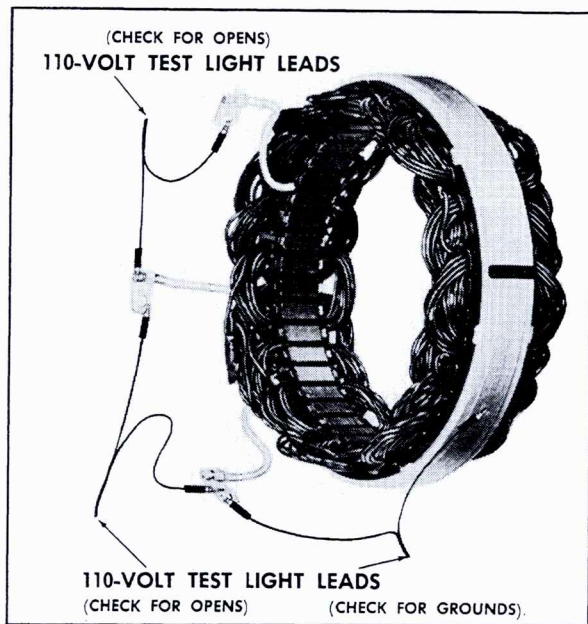

Fig. 6-30 Stator Checking
2. Check stator windings for grounds or opens, using a 110-Volt Test Lamp, Fig. 6-30.